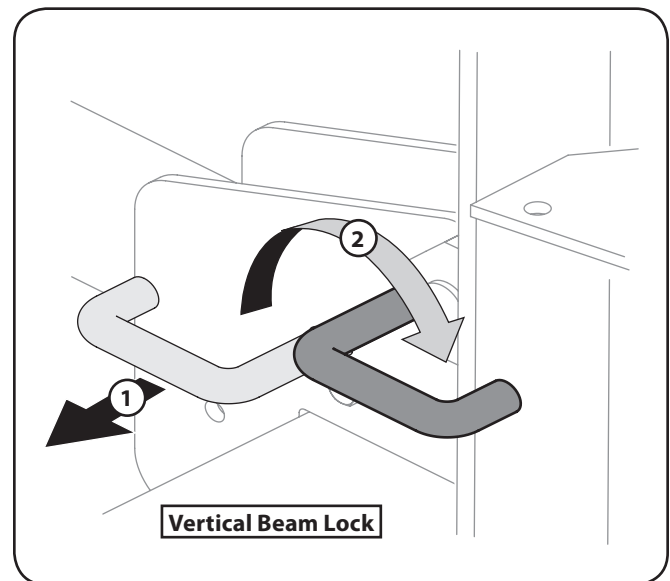

Figure 5-1
- b. To lock the beam in the vertical position, pull out on the vertical beam lock and rotate it to secure the beam. See Fig. 5-1.